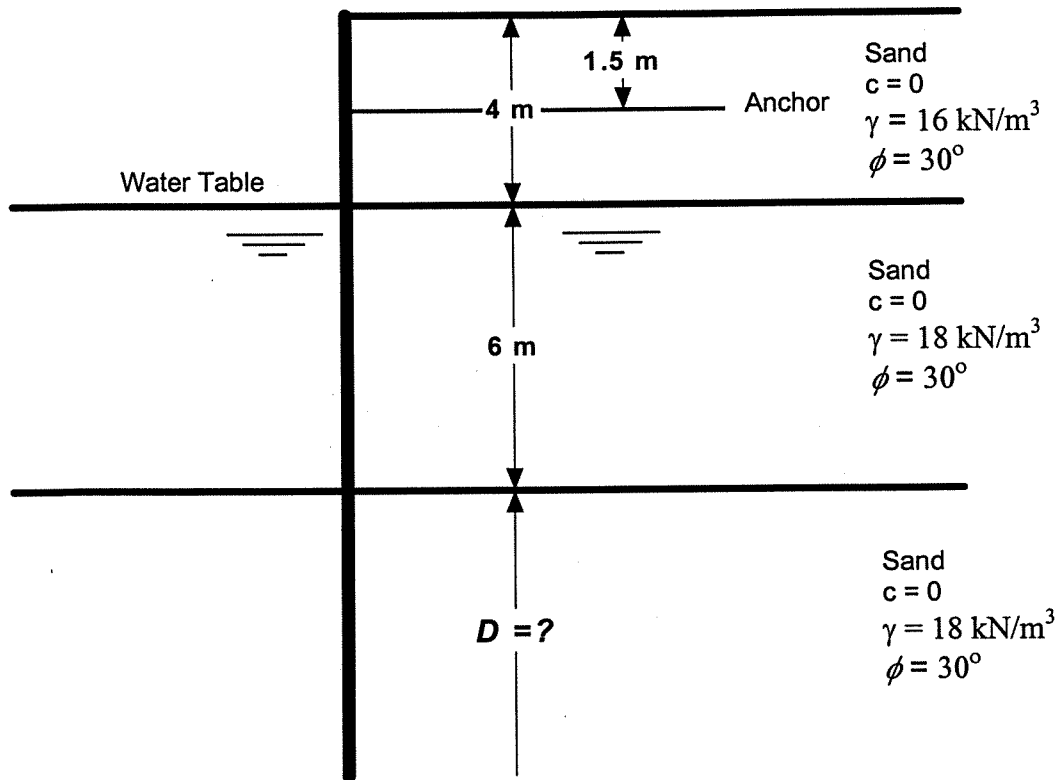

Figure Q. 7
7. Calculate the theoretical value of the depth of embedment, D , for the anchored sheet pile shown in **Figure Q.7**. Also, draw the pressure distribution diagram and determine the anchor force per unit length. Use the free support method.